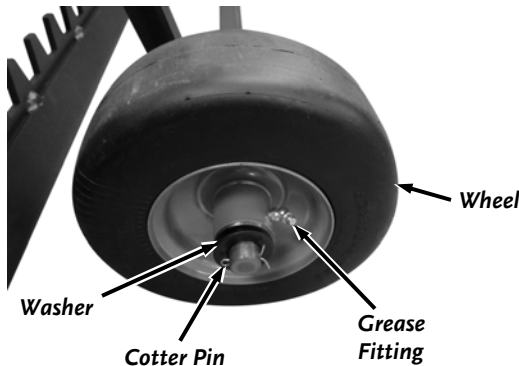

Figure 21
25. Install a Wheel and .8" ID, 1.5" OD x .11" Washer on each end of the Axle and secure with a Cotter Pin using Pliers to bend the ends (**Figure 21**).